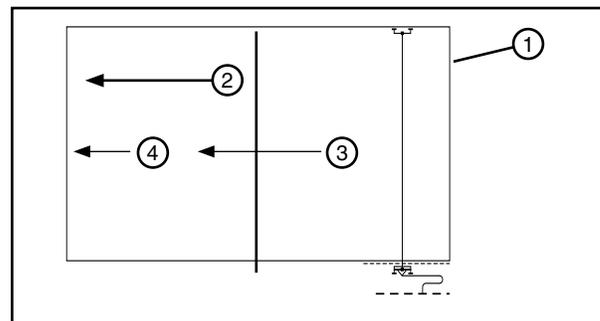

Figure 39-2 1. Field 2. Direction of Travel 3. Wet Deep 4. Wet Shallow
5. The system direction is reversed, the percentage timer is set to the desired application rate and the system is run wet (irrigating) to the middle of the field. See Figure 39-2.
6. At the middle of the field, the percentage timer is set to 100% and the system continues to run wet to the original end of the field. See Figure 39-2.